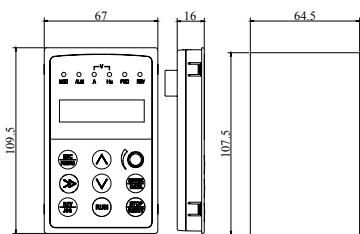

Fig.2-7 Mounting size of keypad
1. EN-LCD2 long-distance keypad outer lead, do not support keypad holder installed, only keypad installed support, mounting size refer to Fig.2-7.